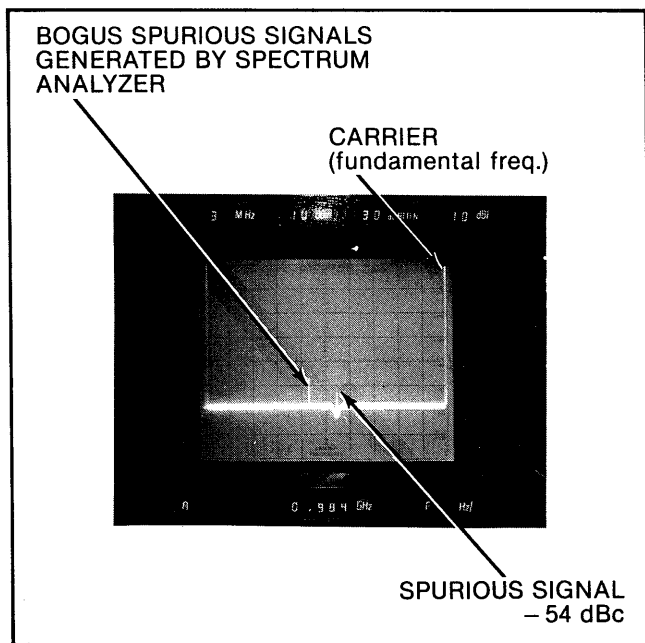

Figure 4-16. Example of a Spurious Signal
Spurious signals may be generally characterized as follows: They will (1) be weak in power, (2) "pop up" abruptly and track oppositely to the fundamental and harmonic signals, and (3) disappear abruptly. An example of a spurious response at 984 MHz is shown in Figure 4-16.